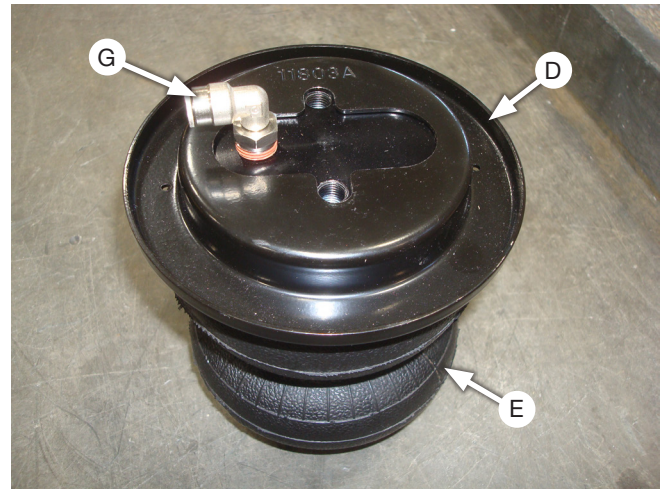

Fig. 8
1. Set the roll plates (D) over the air springs (E) (Fig. 8) and install the 90-degree air fitting (G) onto the endcap finger-tight, then tighten one and a half turns with a wrench.